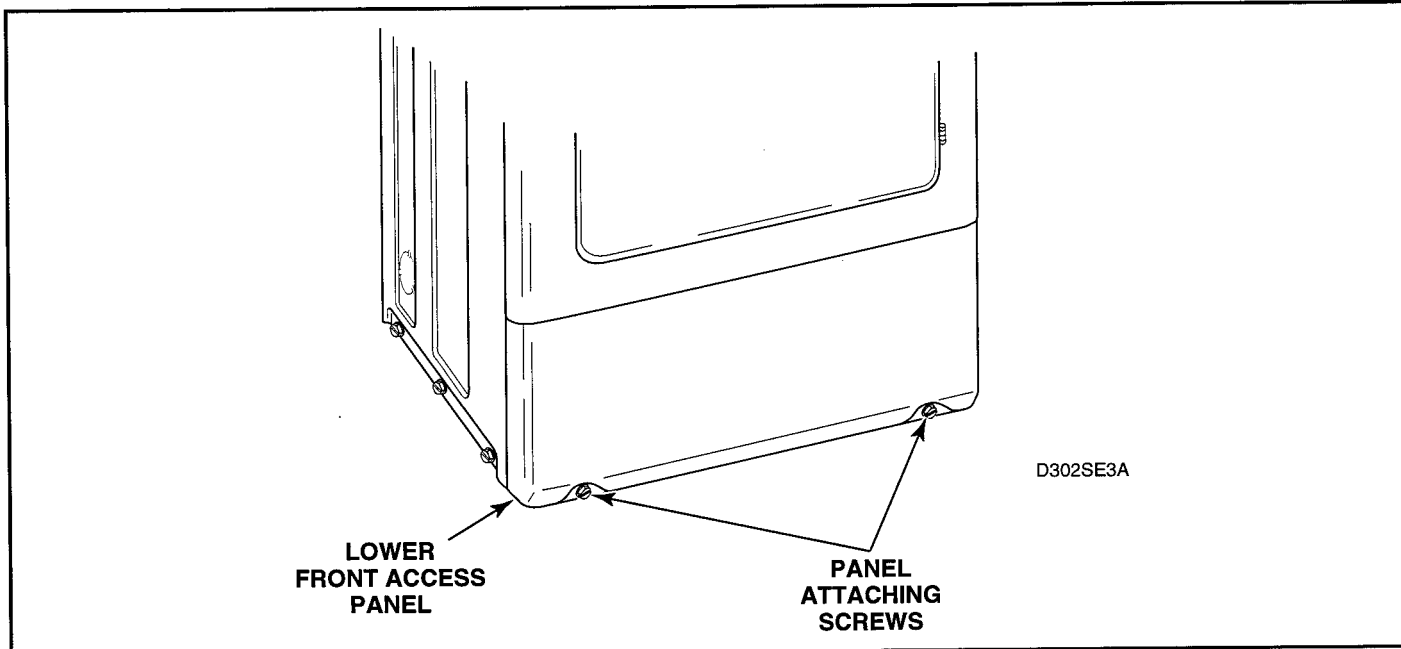

Figure 7-4
- While supporting the lower access panel, remove two screws from bottom edge of lower access panel. See figure 7-4.